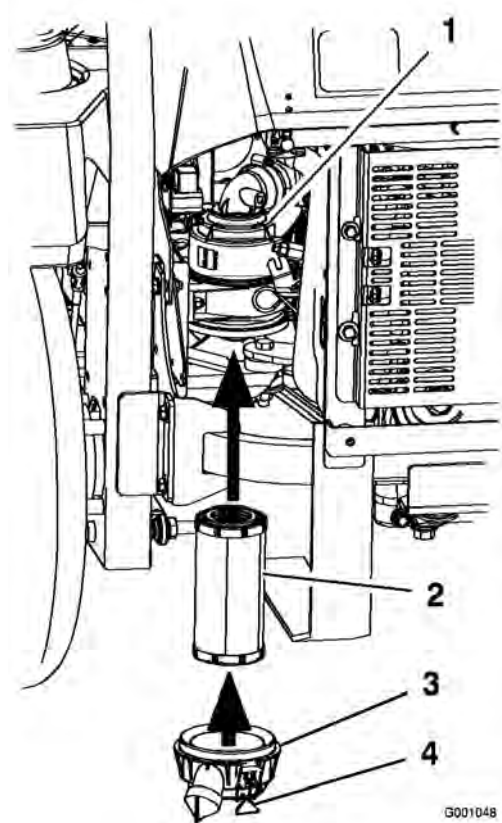

Figure 36
3. Install the air cleaner cover and secure the latches (Figure 36).